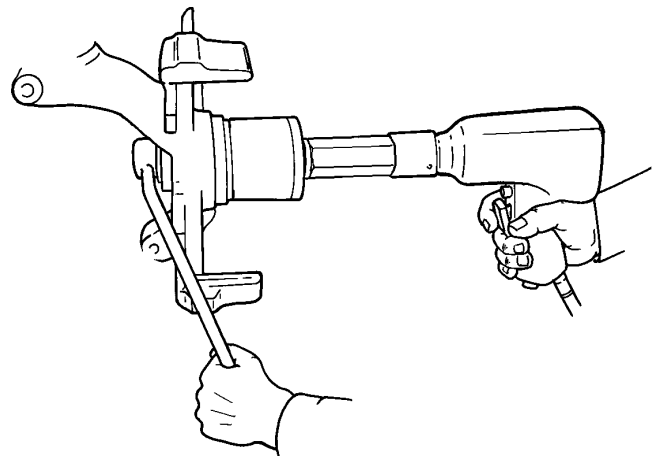

Figure 2
3. Hold the forcing screw with a wrench, and press out the worm bearing as shown in Figure 2.